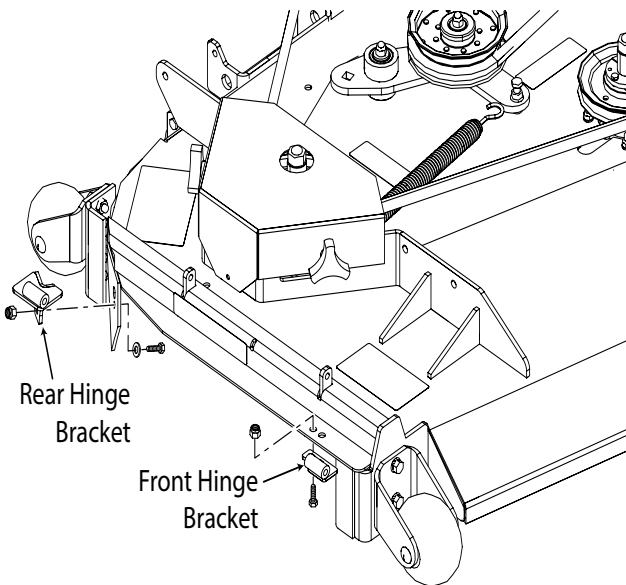

Figure 3-18. Hinge Weldment Installation
8. Install one (1) 5/16-18 x 3/4" bolt and one (1) 5/16-18 elastic stop nut. Do not tighten the hardware.
9. Install the template to locate the mounting hole for the pivot assembly. Secure the template to the cutter deck using the turbo baffle mounting hardware removed in step 5. See Figure 3-18, Page 13.
10. Hold the template against the discharge chute mounting rail and tighten the hardware. See Figure 3-18, Page 13.
11. Using the template as a guide, center punch and drill two mounting holes using an 11/32" drill bit. See Figure 3-18, Page 13.
13. Carefully lay out the remaining mounting holes for the front hinge bracket in the cutter deck. See Figure 3-18 Page 13.
15. Install the front hinge bracket to the cutter deck using two (2) 5/16-18 x 3/4" bolts and two (2) 5/16-18 elastic stop nuts. See Figure 3-18. Do not tighten the hardware.